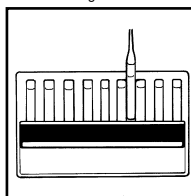

Figure 4
- b. **High Range Comparator (fig. 4):**